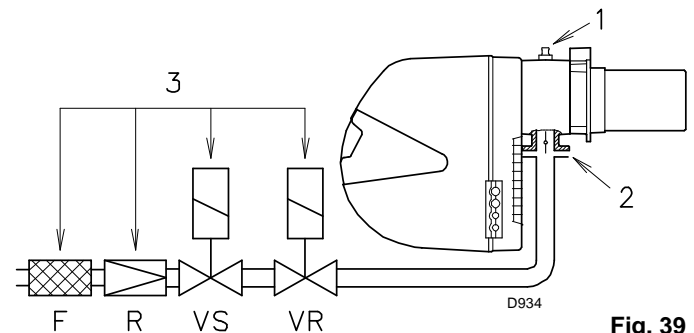

Fig. 39
Gas pressure measured at the test point 1)(Fig. 39), with:
Load loss at gas butterfly valve 2)(Fig. 39) with maximum opening: 90°.
Load loss at train 3)(Fig. 39) including:
- Subtract the combustion chamber pressure from the gas pressure measured at test point 1)(Fig. 39).
- Gas pressure at test point 1)(Fig. 39) = 8 mbar
To know the required gas pressure at test point 1)(Fig. 39), set the MAX output required from the burner operation:
- Read, on the right column (1) the socket pressure 1)(Fig. 39).
pressure required at test point 1)(Fig. 39).